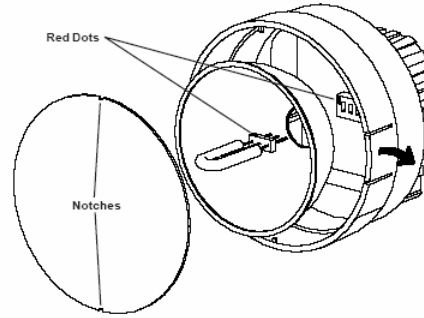

Figure 2 Lamp Replacement
3. The lamps are polarized and must be put into the socket matching polarity. Using a lint free cloth, match up the red dot on the plug with the red dot on the socket and gently rock the lamp back and forth while pushing it into place (see Figure 2). Make sure the lamp is in straight and centered in the reflector hole.
4. Reinstall the reflector and then position the front lens in place matching up the notches on the lens with the two small tabs on the housing to prevent lens rotation (see Figure 2). Push the tabs on the front rim outward and press the lens into place.